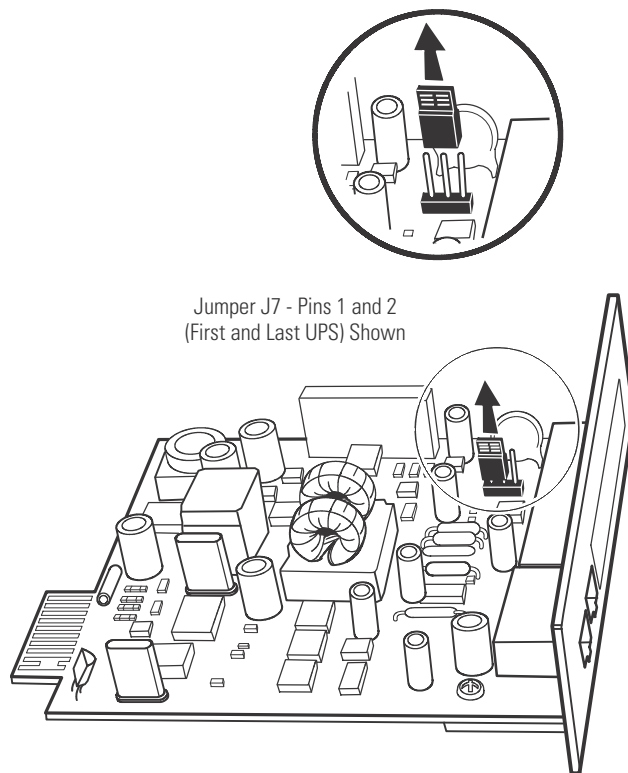

Figure 71. Removing the Jumper J7 (Side View)
- d. Remove and discard the Jumper J7 (see Figure 71).